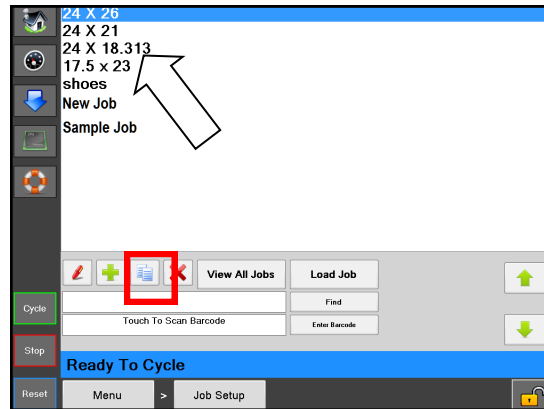

Figure 5-4A. Deleting Job.
3. Press the Red "X" button. Figure 5-4A.